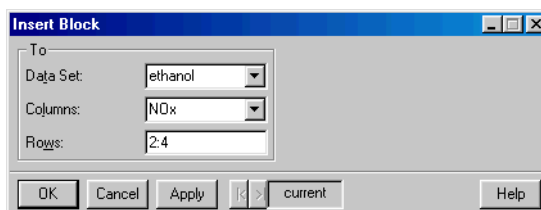

Figure 2.21: The *Insert Block* dialog.
- From the main menu, choose **Insert ► Block**. The **Insert Block** dialog opens, as shown in Figure 2.21.